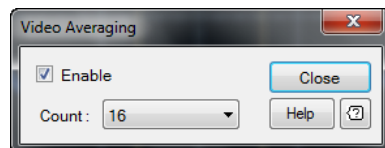

Figure 2-30 Averaging dialog
- 2 The Averaging dialog is displayed as shown in Figure 2-30.